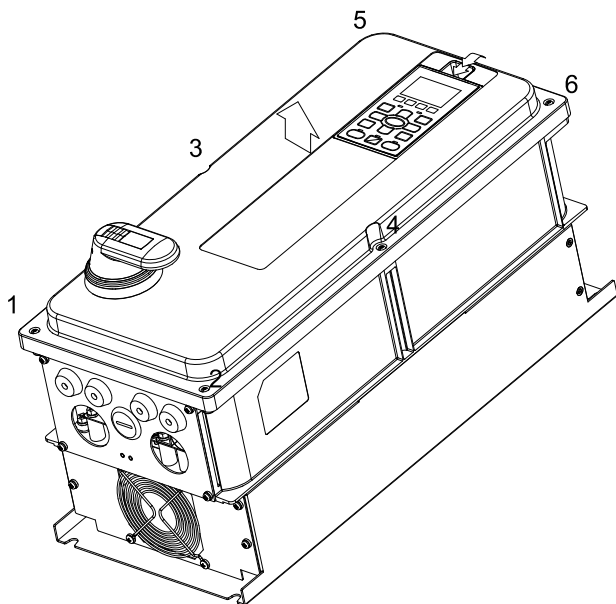

Figure 7-63
1. Press the hook in the top of digital keypad, and then rotate to remove the digital keypad. (Refer to Figure 7-63)